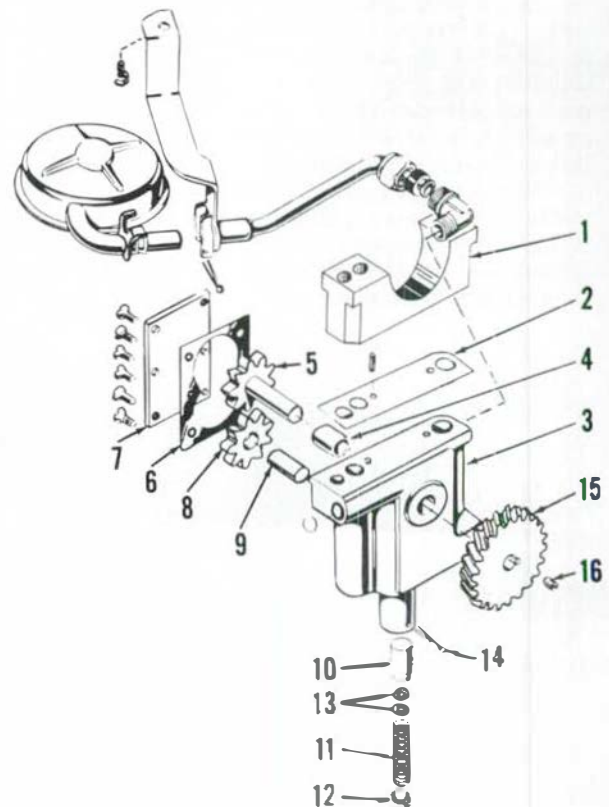

Fig. 42—Exploded view of engine oil pump and associated parts used on Continental gasoline engine.
44. The gear type oil pump is mounted on the bottom of front main bearing cap and is gear driven from crankshaft timing gear. Pump is accessible after oil pan is removed. Shims (2—Fig. 42) control the backlash of oil pump drive gear (15). Recommended backlash is 0.089-0.107 mm (0.0035-0.0042 inch). If backlash is not as specified, vary the thickness of shim pack (2). Be sure that main cap is tightened to recommended torque of 115-129 N·m (85-95 ft.lbs.) when checking backlash.
45. The plunger type oil pressure relief valve (10 through 14—Fig. 42) is located in oil pump body. Normal operating oil pressure should be not less than 50 kPa (7 psi) at low idle and 140-205 kPa (20-30 psi) at 1800 rpm. Relief valve setting is adjustable by varying the number of adjusting shims (13).